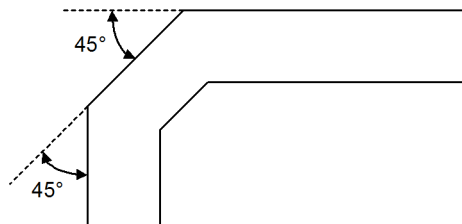

Figure 57. Trace Routing
- For high-speed signals, the number of corners and vias should be kept to a minimum. If a 90° bend is required, it is recommended to use two 45° bends instead. Refer to Figure 57.